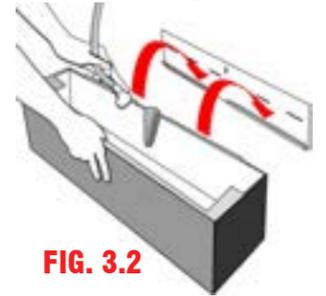

FIG. 3.2
2. Hang the reservoir (L) on the reservoir wall bracket (D). Make certain the reservoir (L) is well seated and centered on the bracket (Fig 3.2). Place the pump assembly (H) inside the reservoir (L) close to the right edge. DO NOT plug the pump (H) into an outlet. Operating the pump dry will void any warranty and burn out the pump.